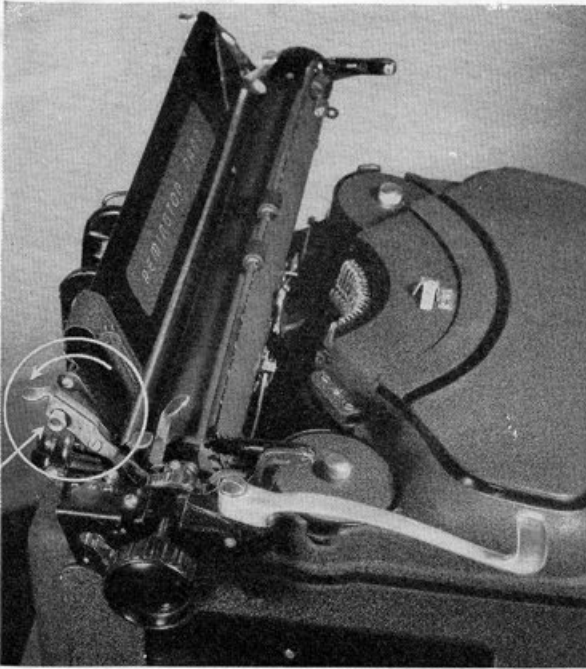
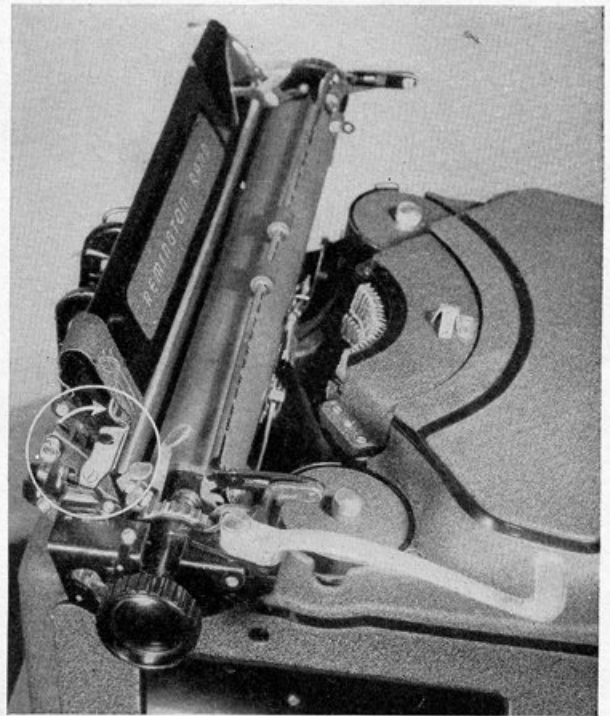

Figure 31.—Platen lock lever, locked, Remington Noiseless.
Figure 32.—Platen lock lever, unlocked, Remington Noiseless.
*Remington Noiseless and Underwood Noiseless.*—At the ends of the carriage are two nickel-plated levers held in place by round spring plungers (see fig. 31). To remove platen: On Remington Noiseless, press plungers in and pull levers forward; on Underwood Noiseless, pull plungers out and levers forward (see fig. 32). Lift out platen. To replace platen: With platen-lock levers forward, grasp platen knobs, with platen ratchet at left side, and place platen in carriage. Push levers back until they snap in place.